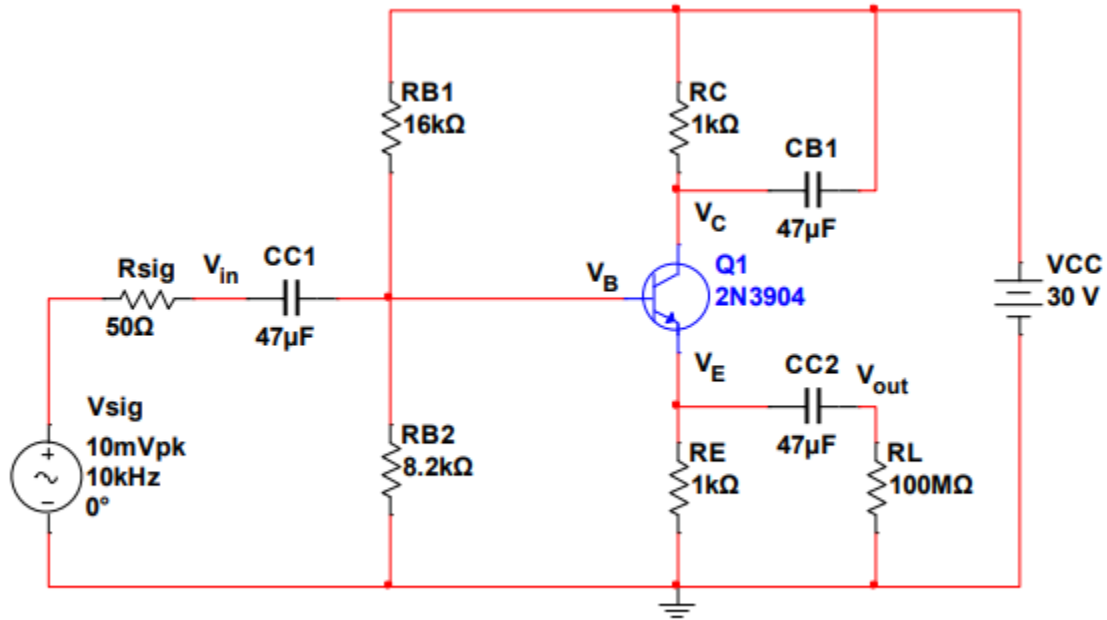

Figure P.5.1 – Common Collector Amplifier
1. **Alter** the common emitter amplifier to match the circuit shown in **Figure P.5.1**.
2. **Perform a transient analysis** to plot five cycles of the input and output voltage as labeled in **Figure P.5.1**. Follow the same procedure from above for adjusting the axes if necessary.